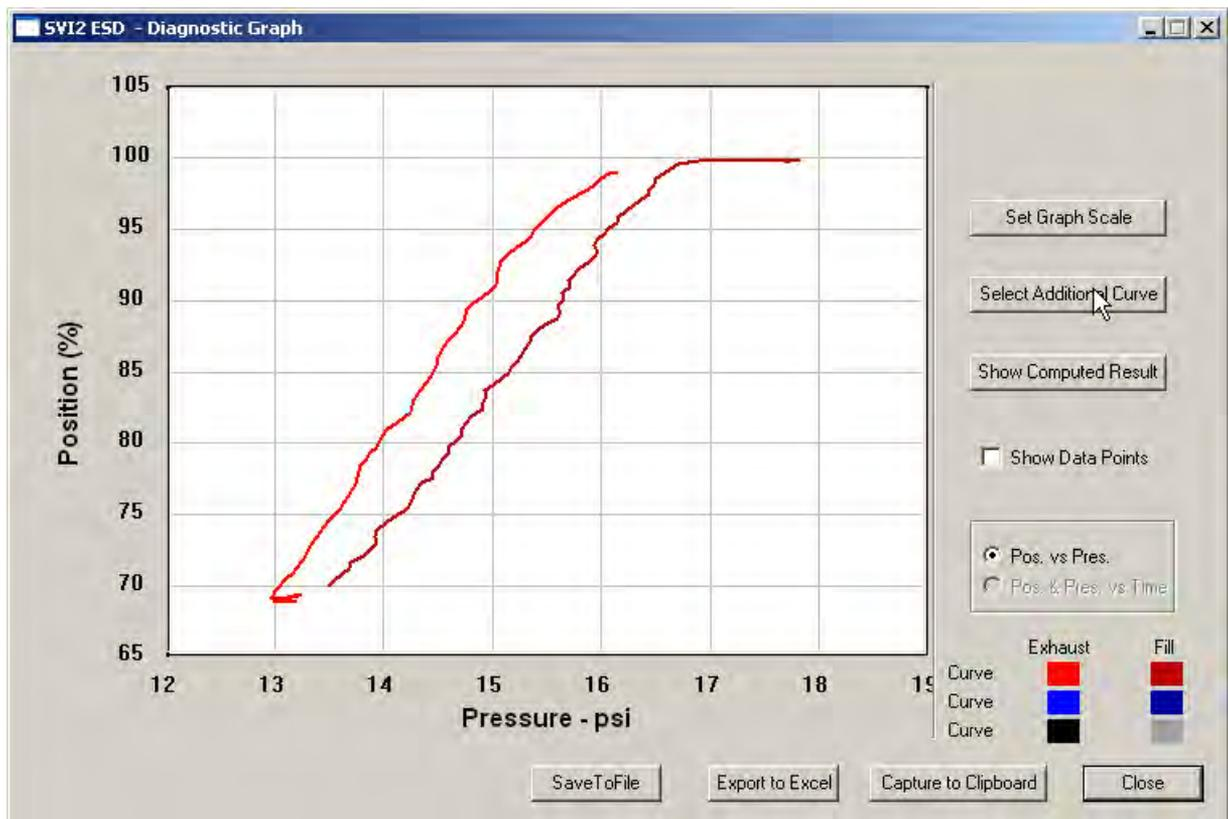

Figure 210 Starting Select Additional Curve
1. Click **Select Additional Curve** (Figure 210).